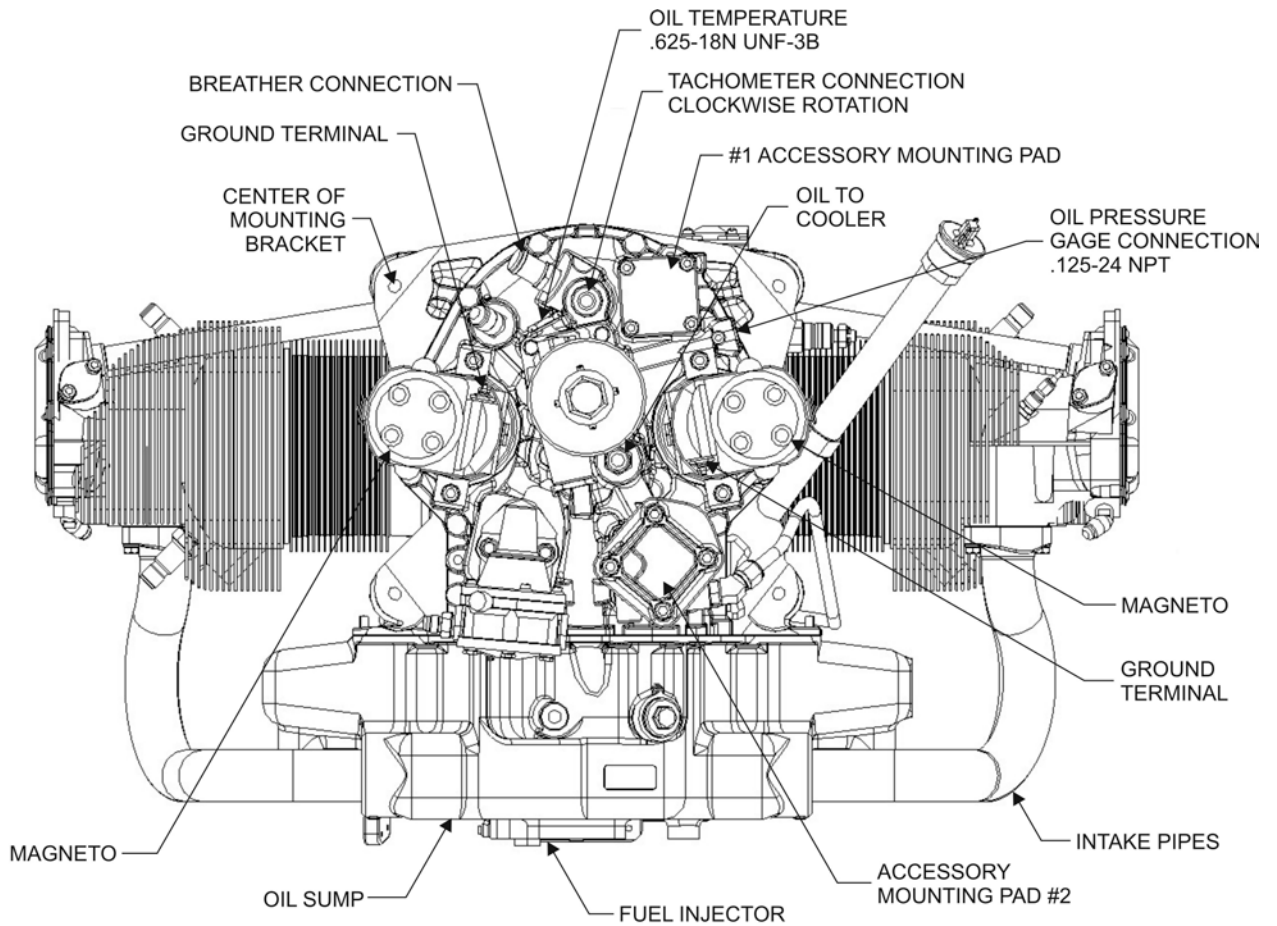

Figure 2-3. Installation, Rear View
- a. Refer to installation drawing, Figure 2-3. Remove cover plate and gasket. When installing the accessory, use the gasket and hardware specified by the airframe manufacturer. Torque to the value specified for the thread size in the Table of Limits, YIO-390-B Series Maintenance and Overhaul Manual.